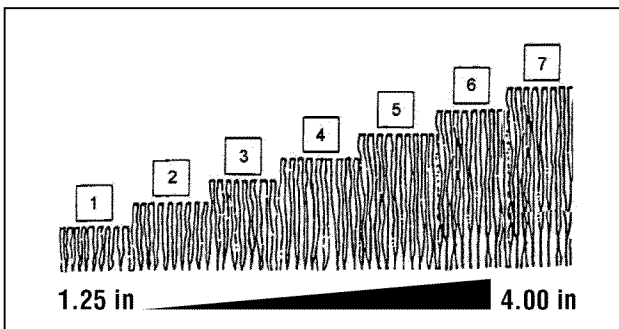

Figure 9: Cutting height settings (approximate)
2. Set all wheels at the same cutting height. The highest cutting position is Notch 7 (**Figure 9**). The lowest cutting position is Notch 1.